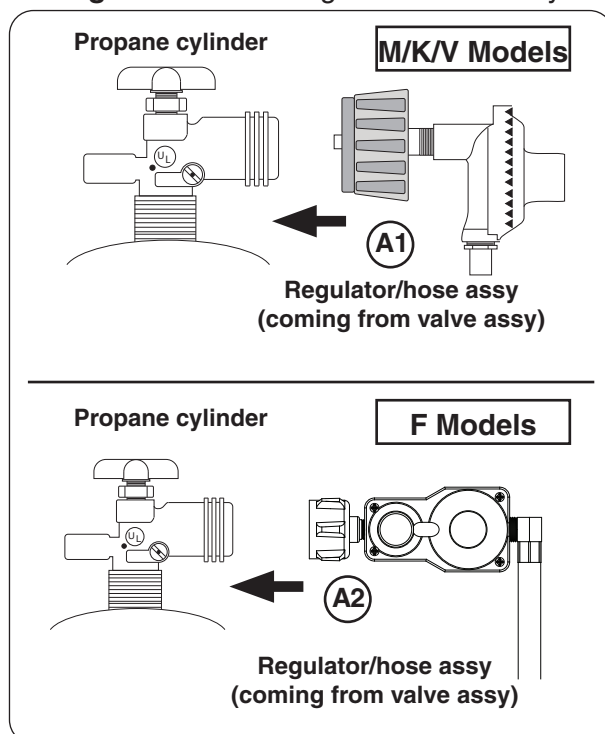

Fig. 29-2 Connecting hose assy to L.P. cylinder
2. Attach the regulator end of the hose assembly to a propane cylinder (not included) and tighten (see Fig. 29-2, A1 or A2).